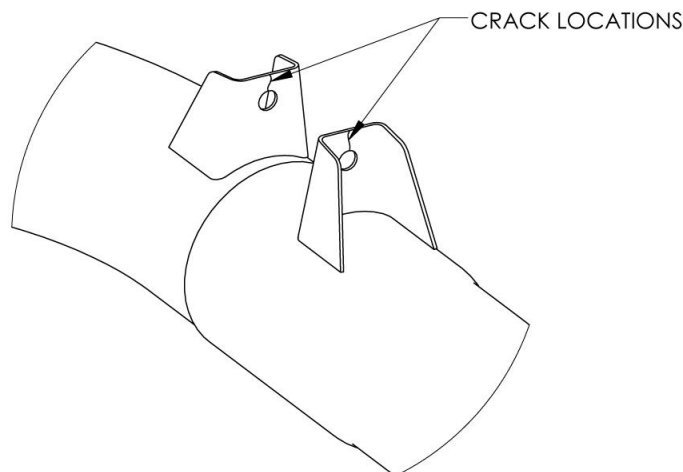

Figure 1, Crack Locations
5. Inspect slip joint brackets for distortion and cracks per figure 1. Replace bracket with improved 11-1078-1 or 11-1078-2 if cracked or distorted.